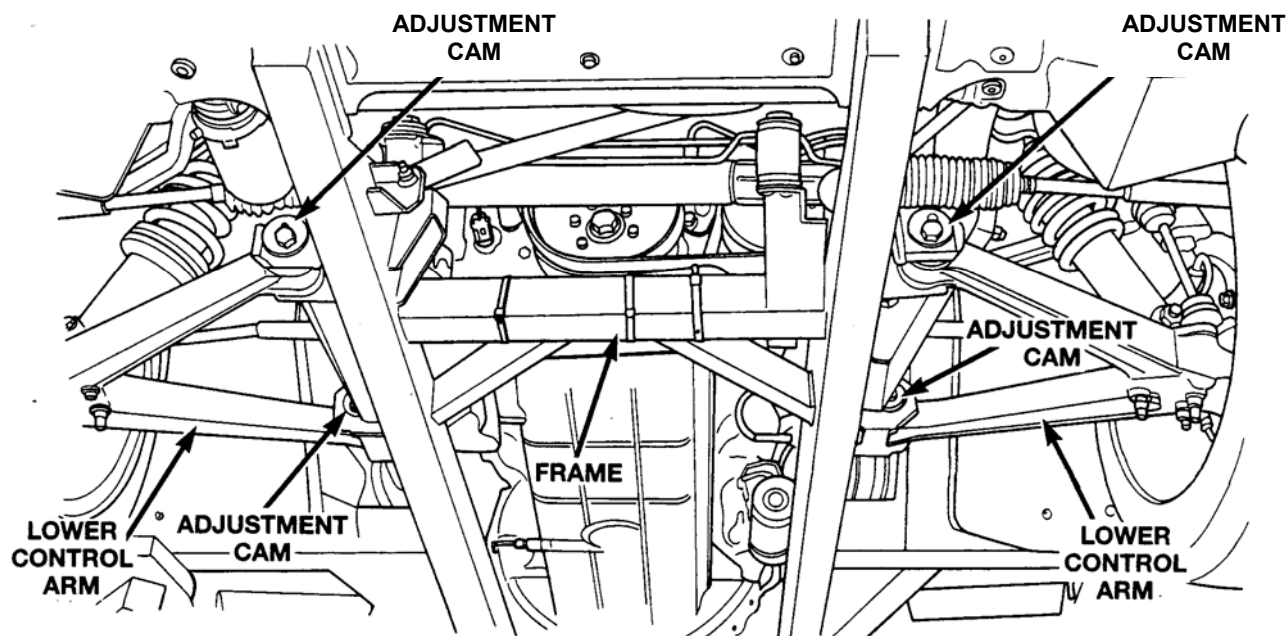

Figure 24
11. Adjust the front caster angle using the measurements viewed on the DRB III screen, and the camber angle using the measurements viewed on the alignment equipment. Camber and caster angles are adjusted by turning the cam bolts on the lower control arm bushings (Figure 24). Refer to the Alignment Specifications Chart on page 33 of this document.